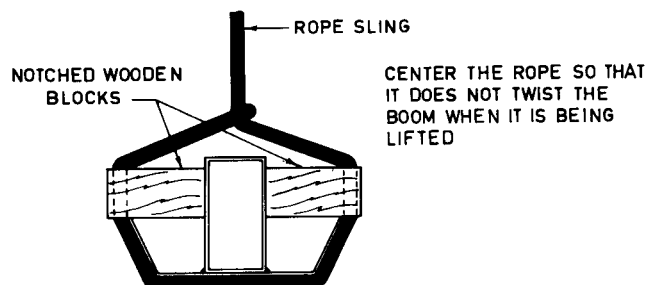

Figure 2
- 5) Remove the upper part of the mast-boom crate and attach a 1.00 inch rope sling at the pick up point. The wooden blocks with the “V” notches are banded to the boom so that the unit can be picked up at this point. Attach the rope sling as shown in Figure 2.